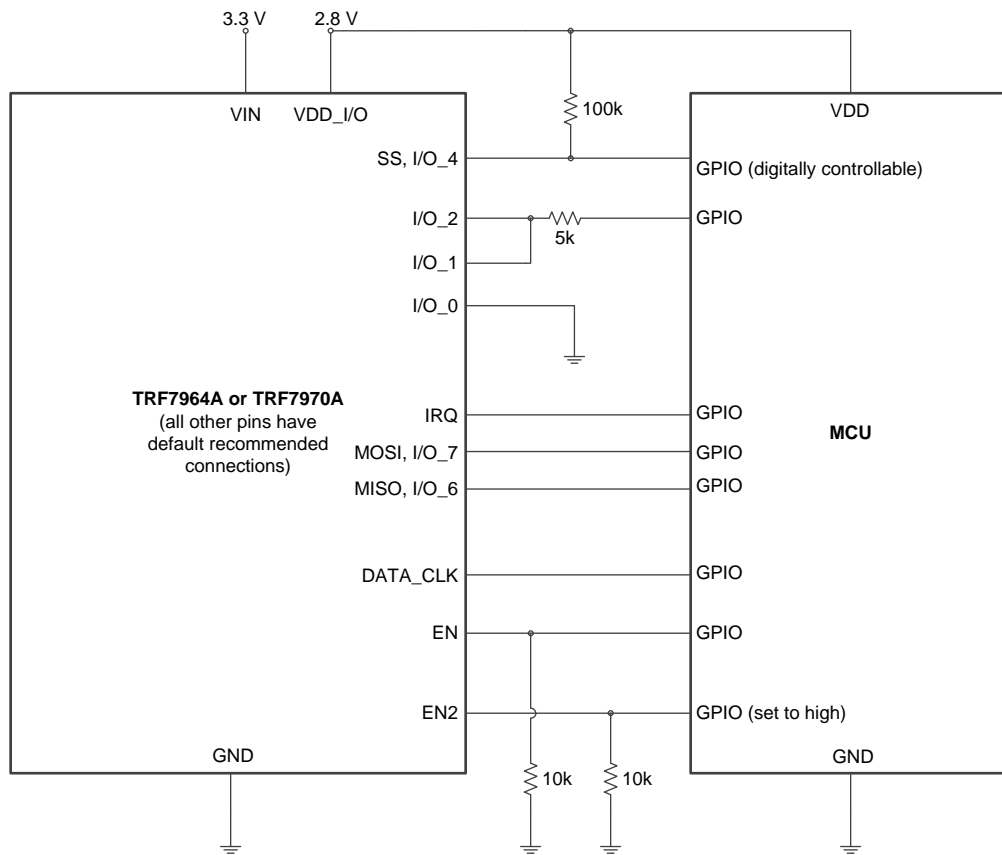

Figure 3. Slave Select Pulled High
3.3 Slave Select (SS) Pulled-Up Design
When slave select (SS) is pulled high (see Figure 3), there is a certain disadvantage. With SS pulled high, when EN = 0 and EN2 = 1, there is current through the SS pullup through the internal pulldowns on the TRF7964A or TRF7970A.